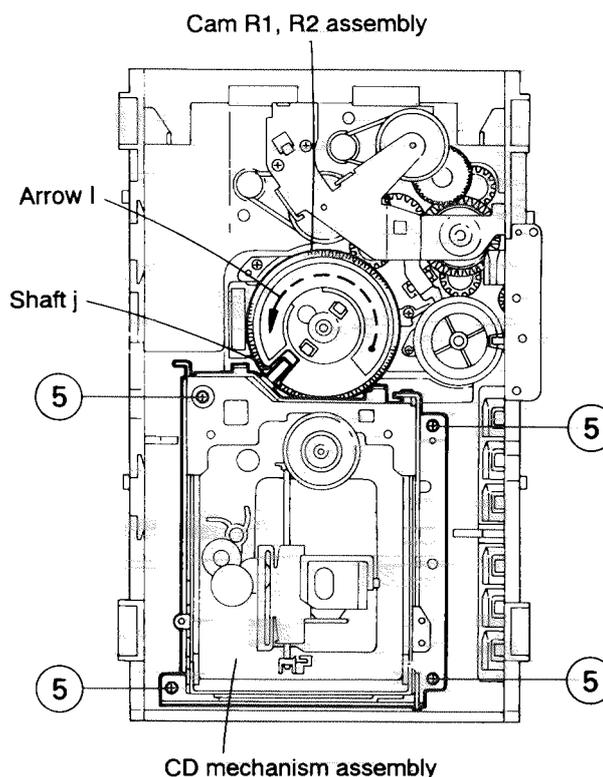

Fig. 2-19
Removing the CD mechanism assembly (See Fig. 2-19).
1. While turning the cams R1 and R2 assembly in the arrow direction (I), align the shaft (J) of the CD mechanism assembly to the position shown in Fig. 2-19.
2. Remove the four screws (5) retaining the CD mechanism assembly (See Fig. 2-19).